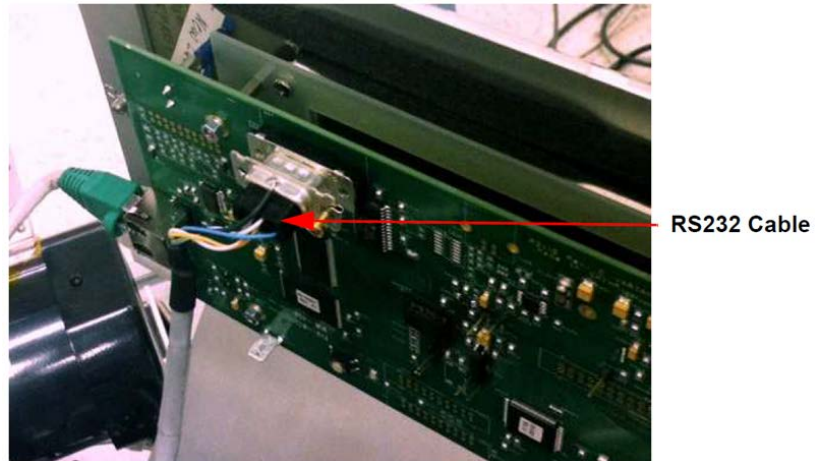

Figure 17 RS232 Cable
- 15 Connect the RS-232 cable end labeled J300-2 to P300-COM2 on the front panel display board using its two slotted screws (Figure 17: RS232 Cable).